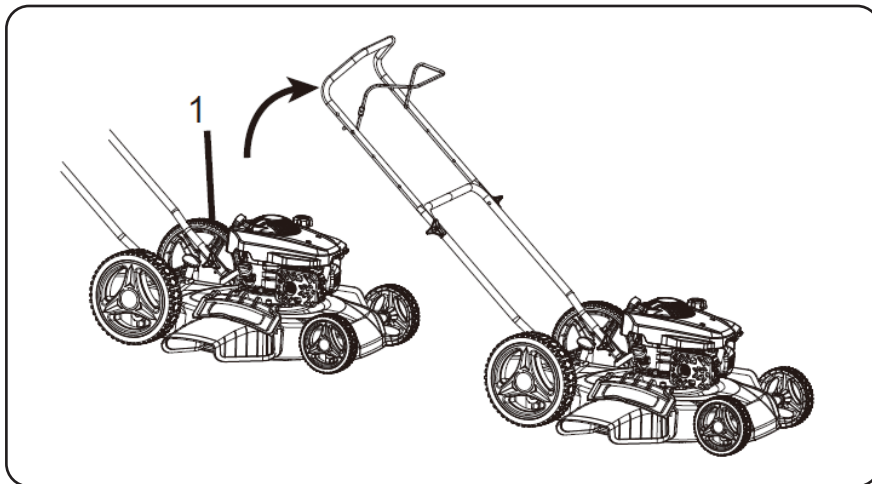

Figure 1
- Handle knob (2)
- Install and tighten the handle knobs that you removed in step 1. (Figure 1)